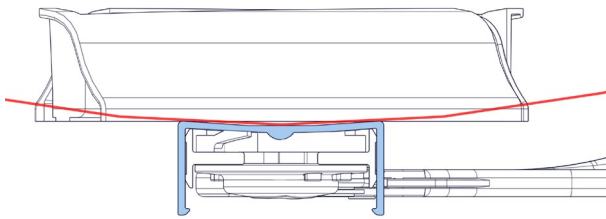

Fig. 23.3.1-1.1
- Cause 2: Concave channel. *Refer to Figure 23.3.1-1.1.*